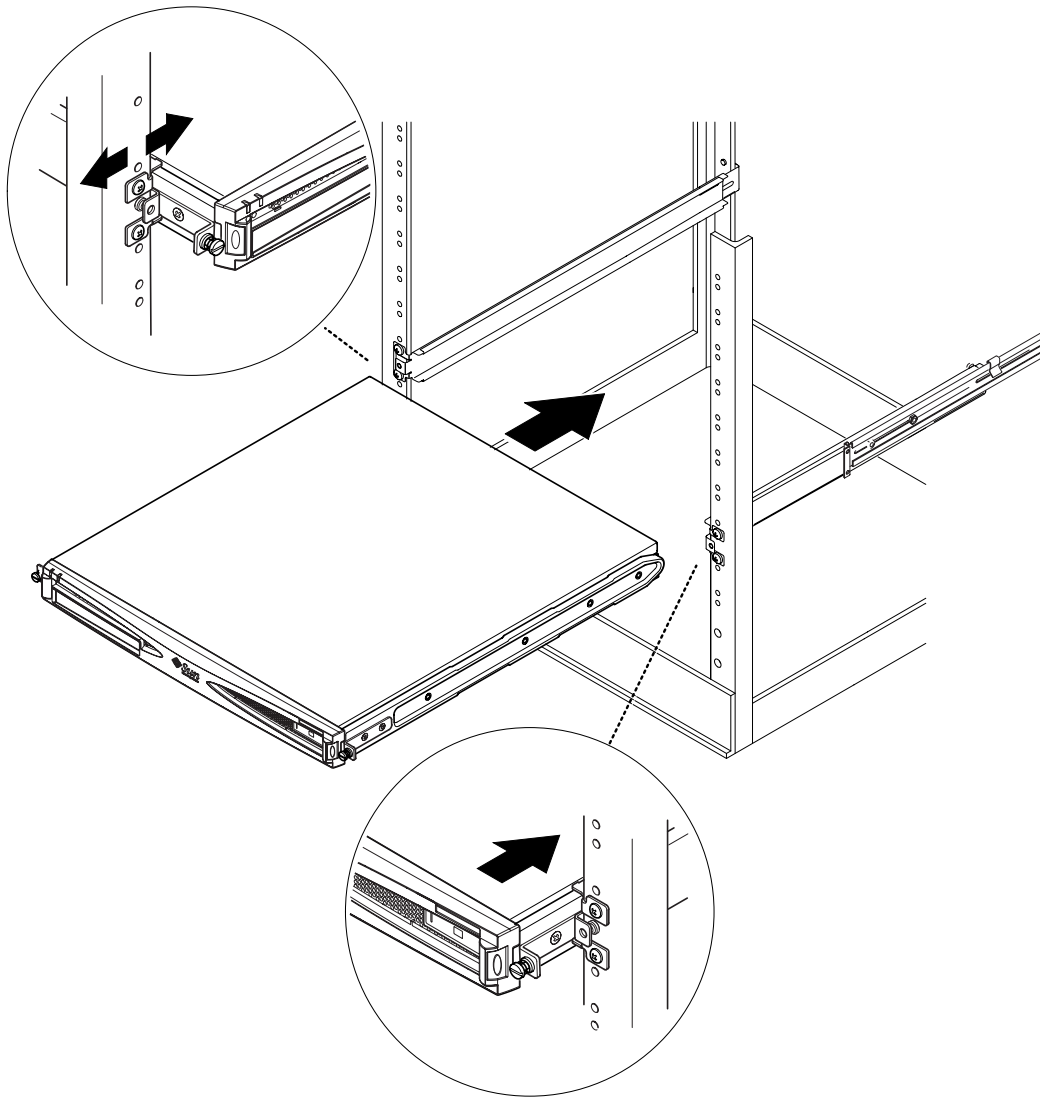

FIGURE 2-7 Sliding the Sun Fire V100 Server Into a Standard 19-Inch Rack
7. Slide the server into the rack (see FIGURE 2-7).